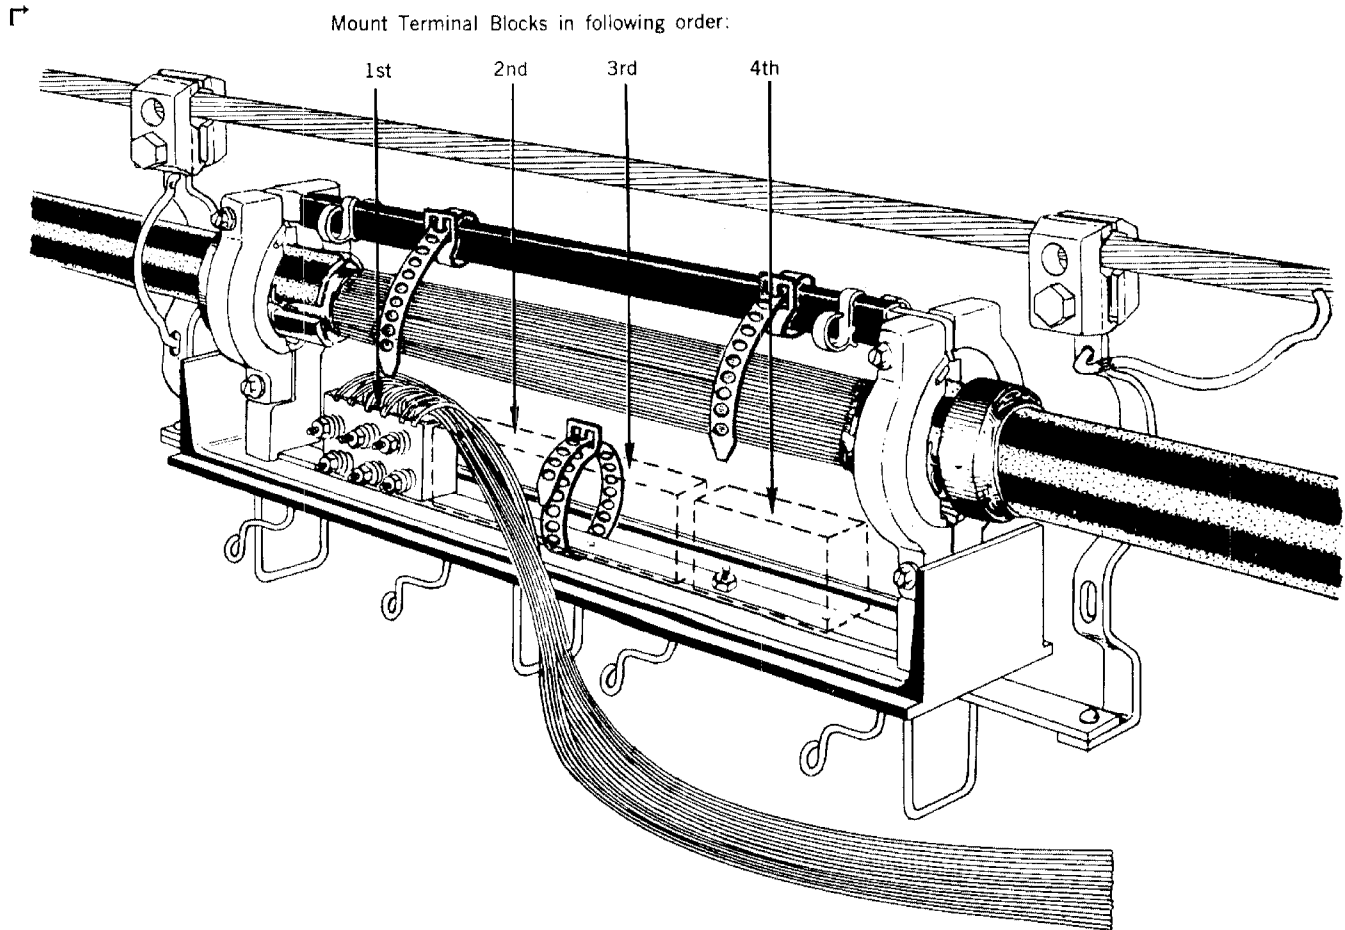

Fig. 2 – Terminal Block Mounting Positions
2.02 The P-18A782 Terminal Block is mounted in the first position. When additional blocks are required, mount them in the order shown in Fig. 2.